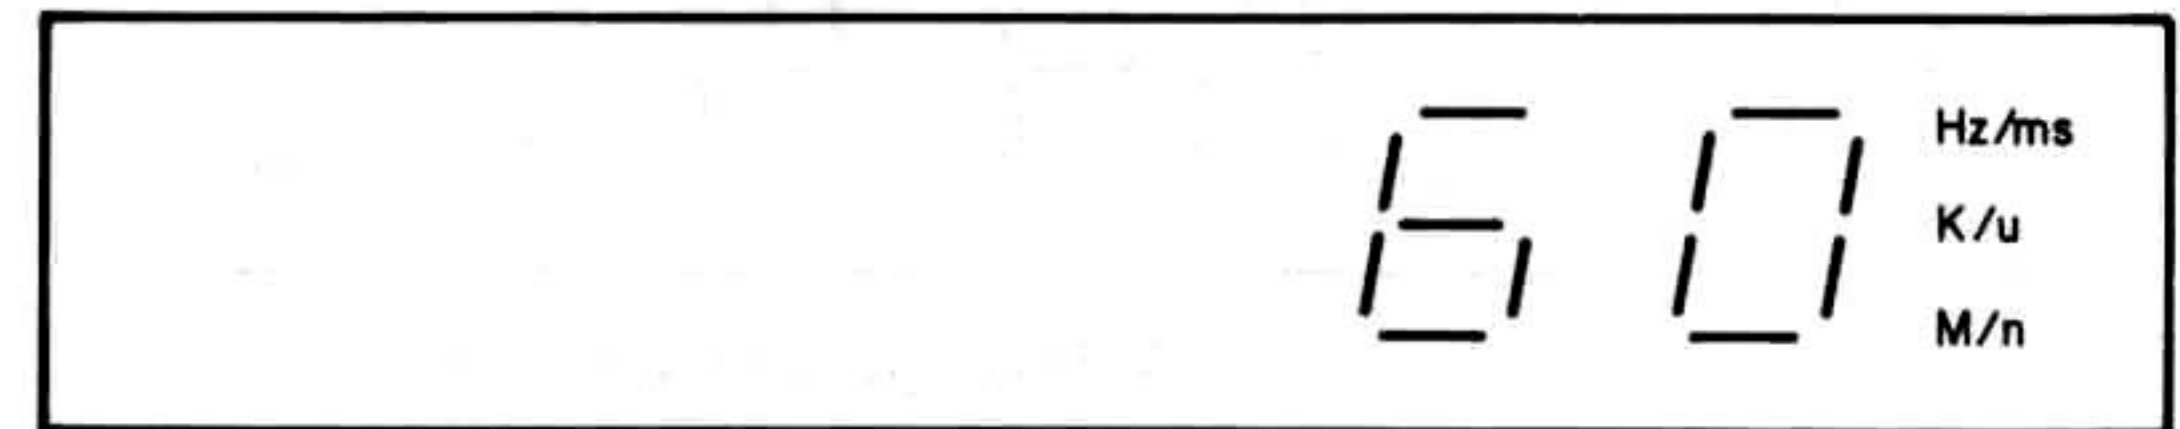
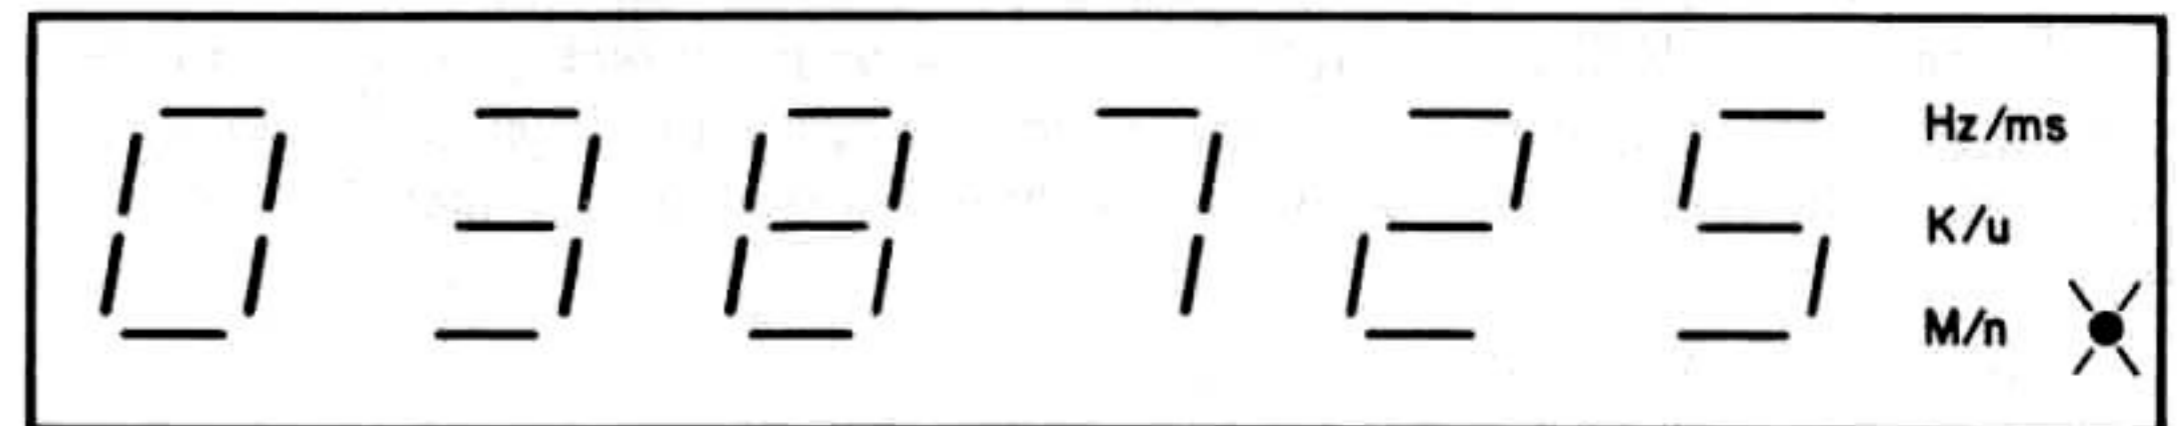
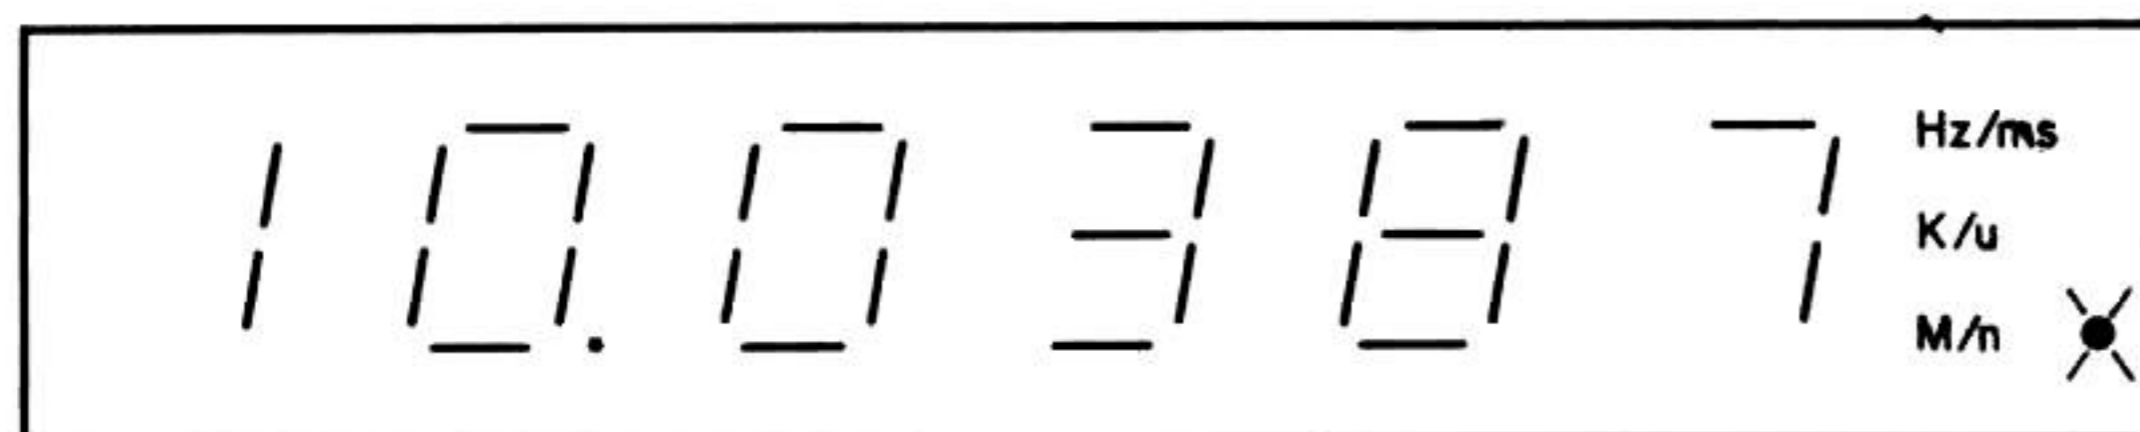

Fig. 6 Display for 60 Hz in "Hz" Function
Fig. 7 Display for 10,038,725 Hz in "Hz" Function
Fig. 8 Display for 10,038,725 Hz in AUTO FREQ Function
5. The input frequency is displayed with a resolution of 1 Hz. The display for an input frequency of 60 Hz is shown in Fig. 6. If the input frequency is greater than or equal to 1 MHz, the "M" annunciator is turned on indicating a display overflow. When an overflow occurs, the six least significant digits of the frequency are displayed. Fig. 7 shows the display for an input frequency of 10,038,725 Hz.
5. The six most significant digits of the input frequency are displayed with decimal point. The appropriate multiplier annunciator is turned on to indicate units of Hz, kHz or MHz. For an input frequency of 10,038,725 Hz the display would be as shown in Fig. 8. Referring to Figures 7 and 8, note that for frequencies above 1 MHz, the resolution can be extended to 1 Hz by switching to the "Hz" mode after finding the six most significant digits using the AUTO FREQ mode.